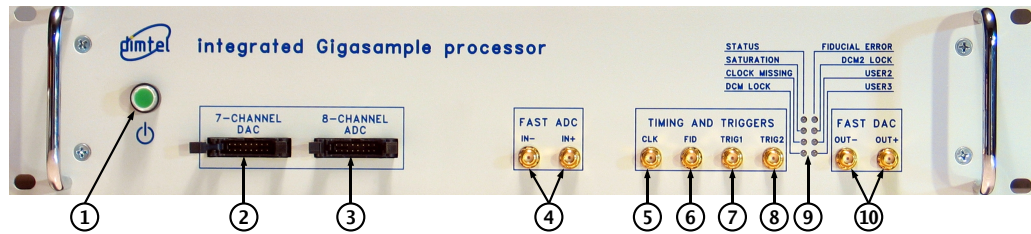

Figure 2: Front panel features
2. Connect **RF** clock at -3 dBm nominal level (Fig. 2, item 5);
3. Connect single-ended high-speed **ADC** input signal to **Ain+** (Fig. 2, item 4). The **FS** swing of this signal should be 190 mV peak-to-peak;
4. Connect a $50\ \Omega$ terminator to **Ain-** (Fig. 2, item 4);
5. Connect high-speed **DAC** output(s) (Fig. 2, item 10) to the appropriate back-end unit;
9. Push the power button (Fig 2, item 1) to turn on the system;
11. Push the power button (Fig 2, item 1) to turn the system off;
- Connect the 16-pin ribbon cable between the 7-channel **DAC** (Fig. 2, item 2) and the 8-channel **ADC** (Fig. 2, item 3);
- Connect 509 MHz clock to the **RF** clock input (Fig. 2, item 5);
- Terminate `Ain-` fast **ADC** input (Fig. 2, item 4);
- Terminate `Aout-` fast **DAC** output (Fig. 2, item 10);
- Make sure fiducial input is not driven (Fig. 2, item 6);